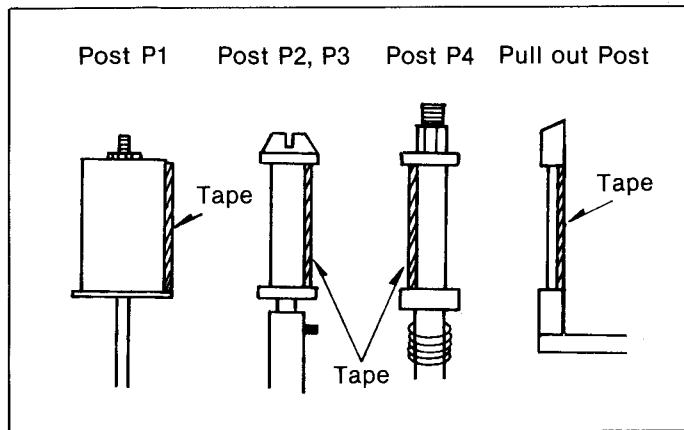

Fig. 20
7. Play back a normal cassette tape and make sure that the edges of the tape are not curling against the edge of the posts P1, P2, P3, P4 and pull out post as shown in Fig. 20.